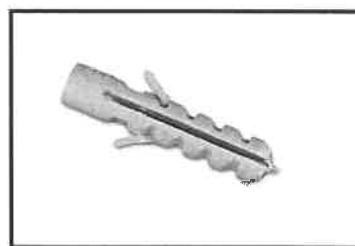

FIGURE 1.8
- 1.8 FIGURE 1.8 below shows a joining fixture that is used on building sites and in workshops.